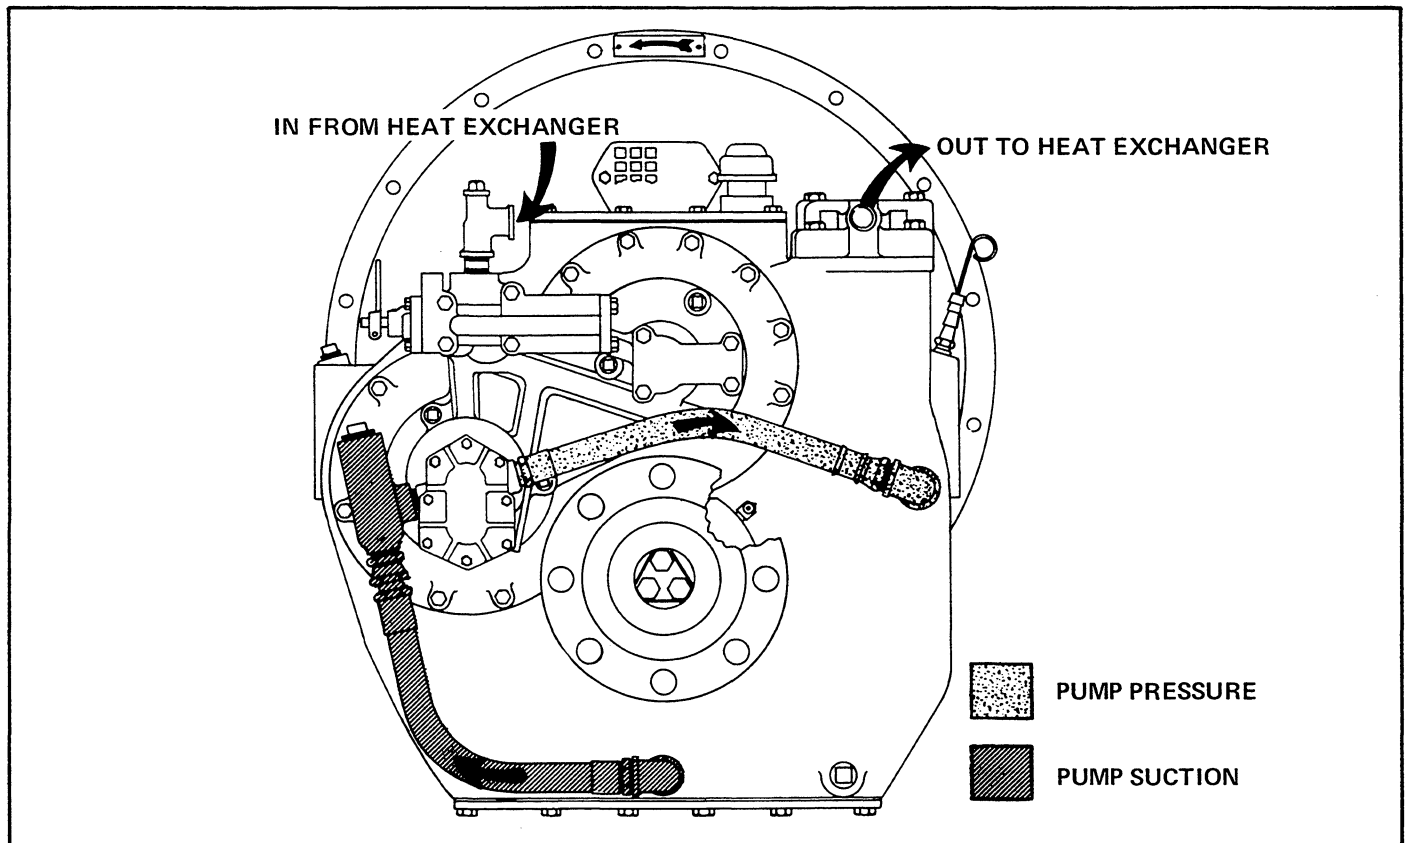

Figure 9. External Oil Flow in Hydraulic System.
B. External Oil Circuit (Fig. 9). Oil is drawn from the sump through the oil strainer to the oil pump assembly. From the oil pump assembly, the oil is conveyed by a flexible hose to the oil filter. The filtered oil is routed from the filter to a remote-mounted heat exchanger. The cooled oil from the heat exchanger is routed to a reduction "tee" fitting on the selector valve assembly. The "tee" fitting on the selector valve has a pipe plug which should be removed and replaced by a pressure gauge or connecting line to a pressure gauge. Pressure reading at this point will be "clutch-apply pressure" oil.